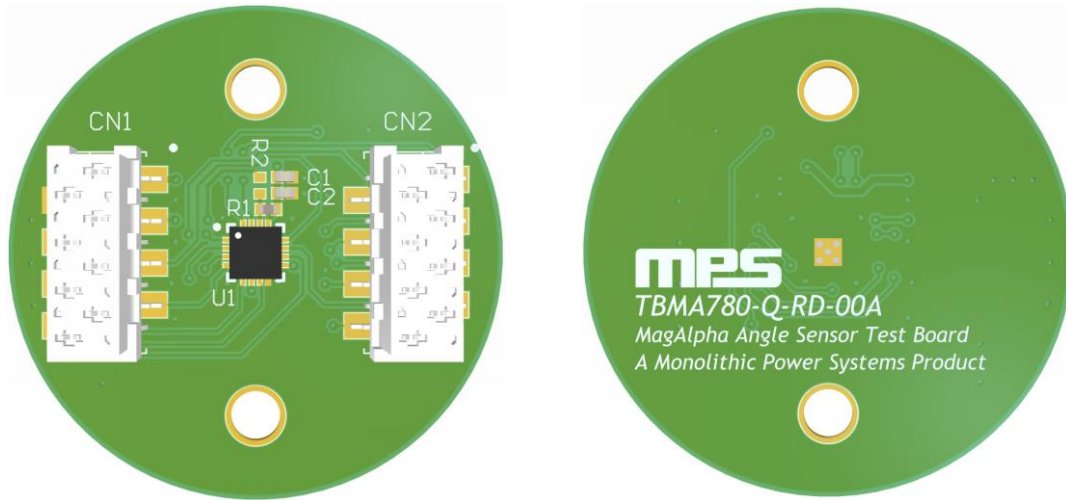

Figure 21: RD Type 3 Board Overview
Figure 21 shows an overview of the Type 3 round (RD) board.